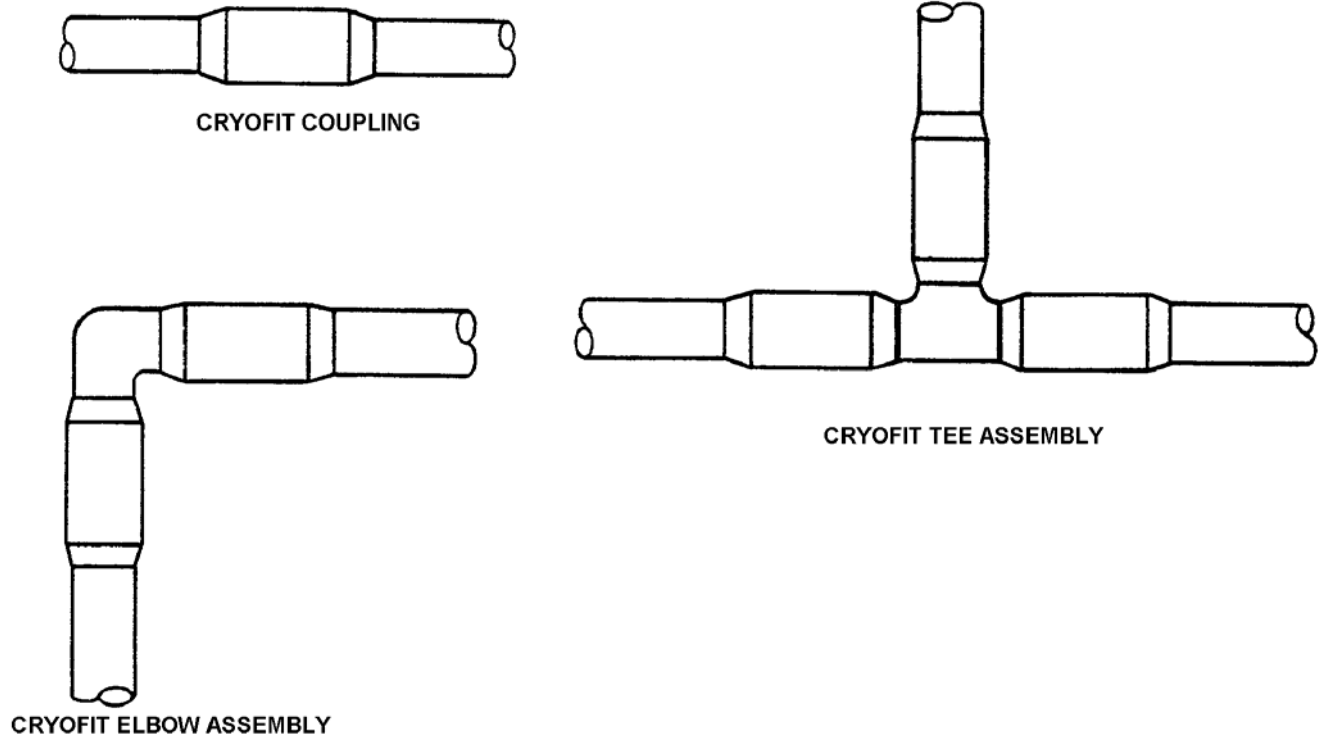

Figure 1. Cryofit Fittings Installation
3. **CRYOFIT COUPLINGS USAGES.** Cryofit couplings are used to permanently install or repair straight sections of hydraulic or pneumatic tubing. By combining the couplings with Cryofit compatible fittings, tee and elbow connections can be made. Figure 1 illustrates these installations. Cryofit couplings are qualified for use in hydraulic systems with operating pressures up to 3000 psi. Table 1 indicates the tube materials which may be joined with Cryofit couplings.
4. **CRYOFIT COUPLINGS DELIVERY.** Raychem Corporation ships its Cryofit couplings in liquid nitrogen at a temperature of -320° F until just before installation. As received, they have an Inside Diameter (ID) which is larger than the Outside Diameter (OD) of the tubes they will connect. If the Cryofit coupling is removed from the liquid nitrogen and warmed to room temperature, it will shrink to an ID which is smaller than the OD of the tube. If the coupling is slipped over two tube ends before it warms, it will shrink and compress the tubes to form a permanent connection.